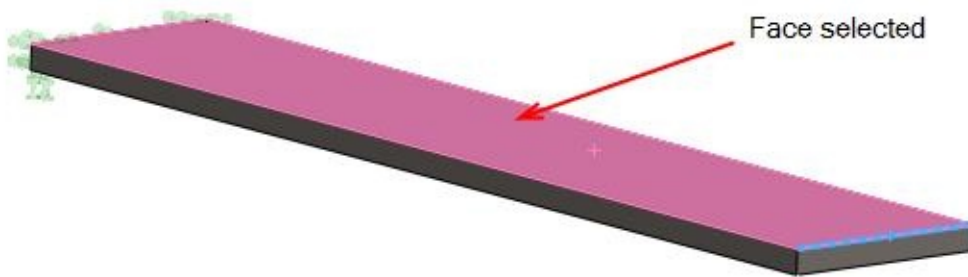

Figure-10. Face selected for force direction
- Select the top face of the model; refer to Figure-10.